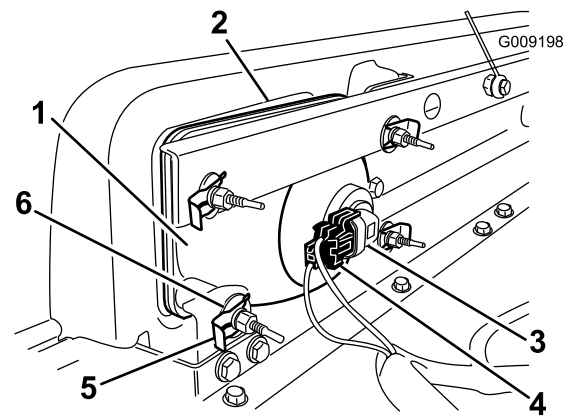

Figure 27
2. Remove the headlight assembly by moving it forward through the opening in the front bumper (Figure 27).
3. Install the new headlight through the opening in the bumper (Figure 27).